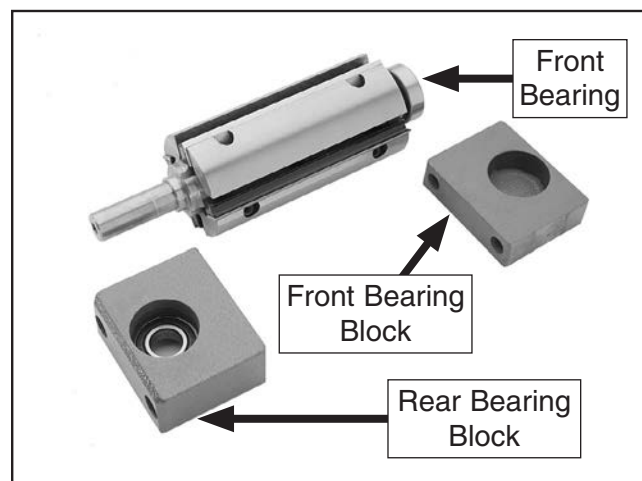

Figure 6. Disassembled cutterhead assembly.
14. Remove front bearing block and bearing from cutterhead—if it has not already dropped off. **Figure 6** shows disassembled components.